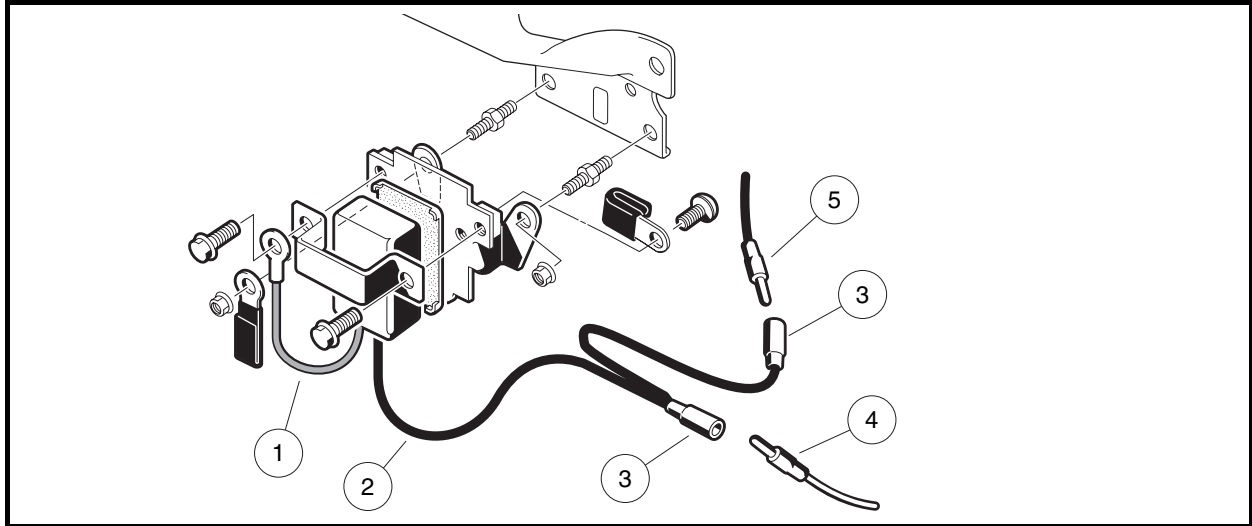
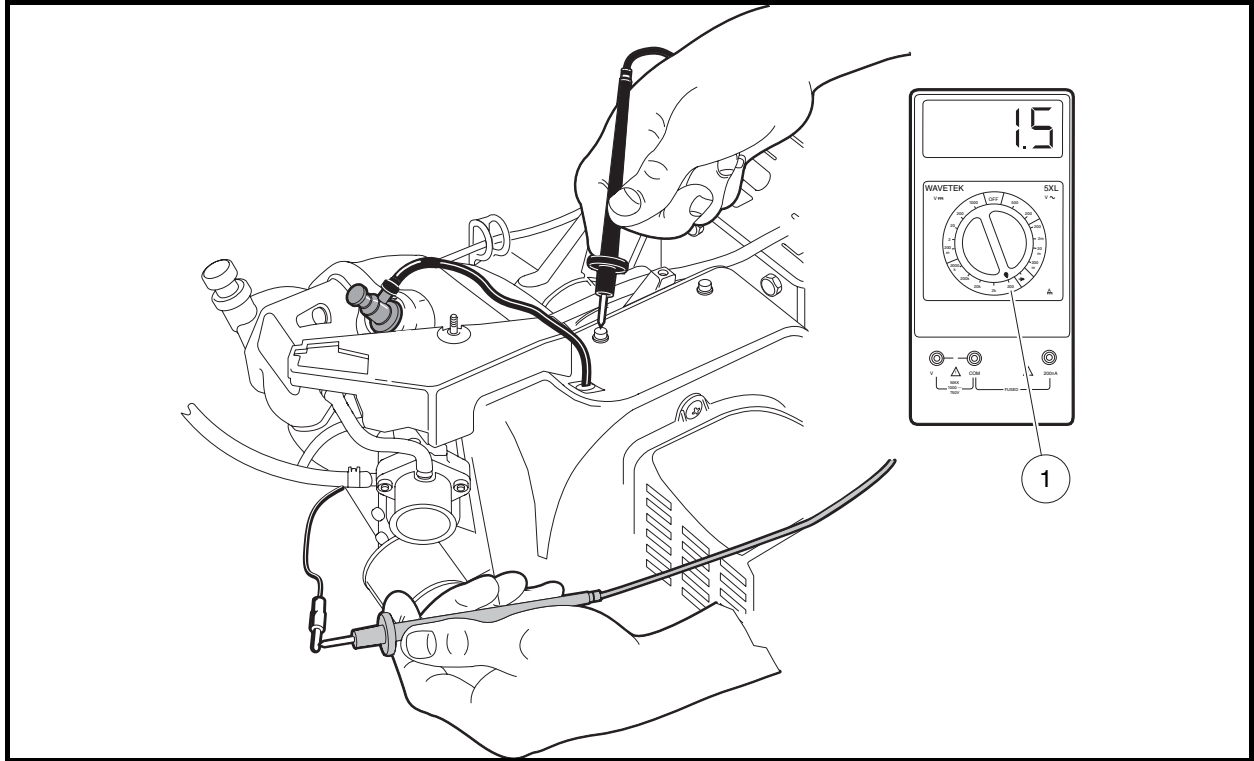

Figure 12-18 RPM Limiter
Figure 12-19 Primary Coil Resistance – In Vehicle Test
- Disconnect both of the bullet terminals (**Figure 12-18, Page 12-21**).
- 2.1. Disconnect both of the bullet terminals at the RPM limiter (Figure 12-18, Page 12-21). Place the red (+) probe of the meter on the male bullet terminal of the wire connecting to the ignition coil under the fan housing, and place the black (–) probe on a clean unpainted surface of the engine or frame (Figure 12-19, Page 12-22).